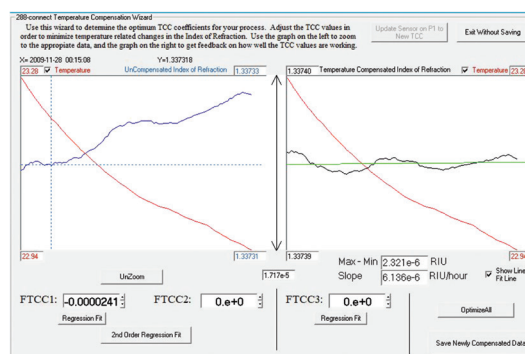

Figure 36. TCC wizard screen 1.
4. Determine if the response of the sensor is under- or over-compensating for temperature. See *Figure 36. TCC wizard screen 1*.